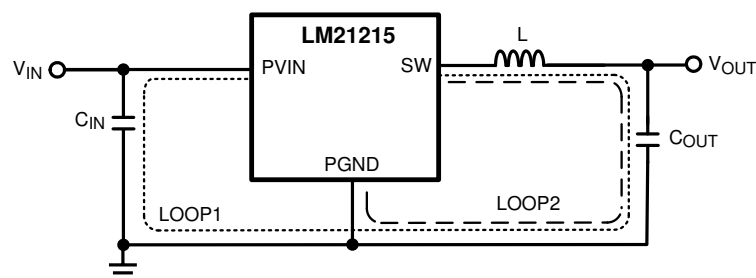

Figure 9-1. Schematic of LM21215 Highlighting Layout Sensitive Nodes
- Minimize area of switched current loops. In a buck regulator, there are two loops where currents are switched at high slew rates. The first loop starts from the input capacitor, to the regulator PVIN pin, to the regulator SW pin, to the inductor then out to the output capacitor and load. The second loop starts from the output capacitor ground, to the regulator GND pins, to the inductor and then out to the load (see Figure 9-1). To minimize both loop areas, place the input capacitor as close as possible to the VIN pin. Grounding for both the input and output capacitor must be close. Ideally, a ground plane should be placed on the top layer that connects the PGND pins, the exposed pad (EP) of the device, and the ground connections of the input and output capacitors in a small area near pin 10 and 11 of the device. The inductor should be placed as close as possible to the SW pin and output capacitor.